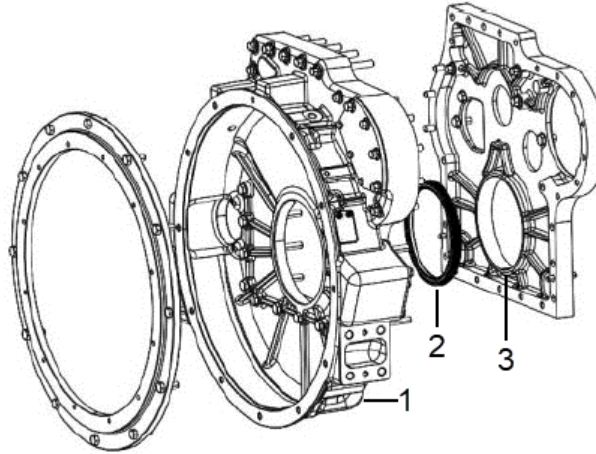

Figure 109.
2. Install the rear oil seal group on the flywheel housing (Figure 109).
5. Install the flywheel housing (Figure 109, Item 2) to the rear end of engine block by using the guide rods.